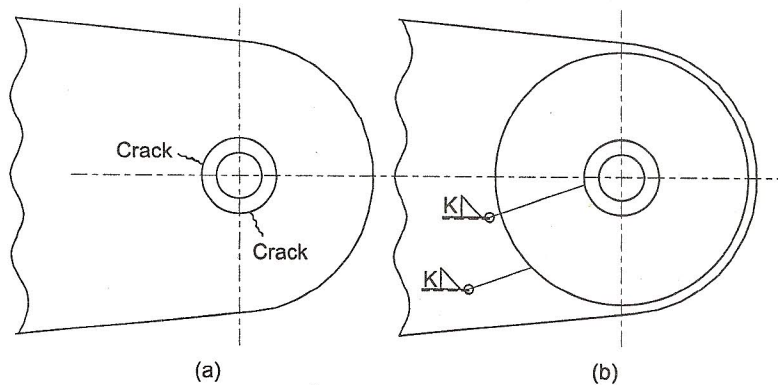

Fig. 09-03 Restoration sketch of crack steel plate at the surrounding of pin shaft bracket
b. For cracks of steel plate at the surroundings of pin shaft hole bracket, please adopt the method and steps of restoration showed in Fig. 09-03: